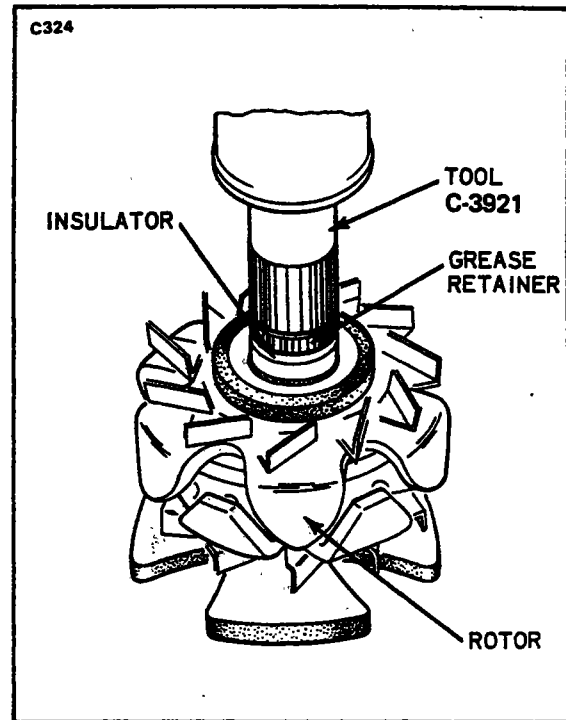

Figure 11-35. Installing Retainer
**11-64. INSTALLATION OF SLIP RINGS. (Refer to Figure 11-35.)** There are two types of slip rings which can be installed. The following instructions will describe each type.